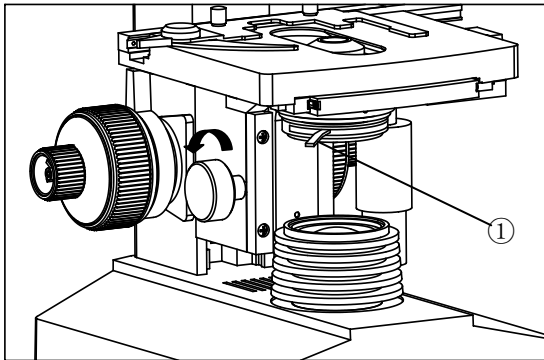

Fig.20
- The tight tension of the coarse focus knob has already been adjusted before leaving factory. If loosen (e.g. the stage slip down by its weight), please screw the intention adjustment collar③ to the right position by the supplied spanner.
3.3.4 Condenser Adjustment (Fig.20)
3.3.5 Aperture Iris Diaphragm Adjustment (Fig.20, 21)